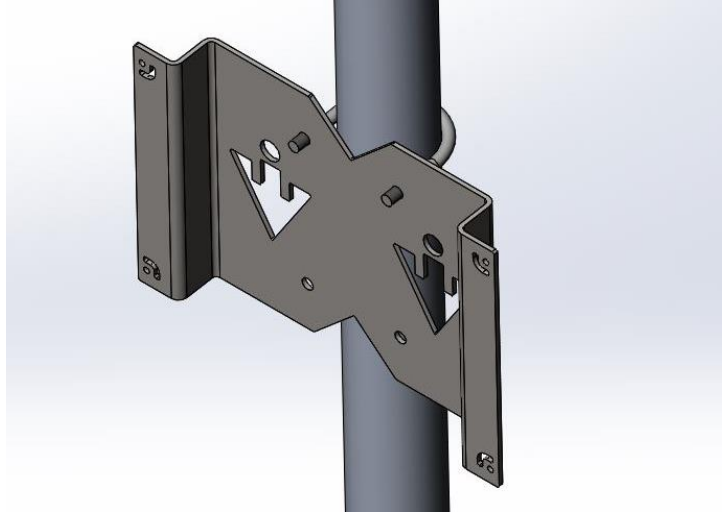

Figure 2-16. Mounting Bracket with U-Bolt
3. With the mounting bracket in one hand and one U-Bolt in the other hand, place the U-Bolt around the 2-inch pipe in which the flowmeter is to be mounted and through one set of holes in the center of the mounting bracket as shown in Figure 2-16.